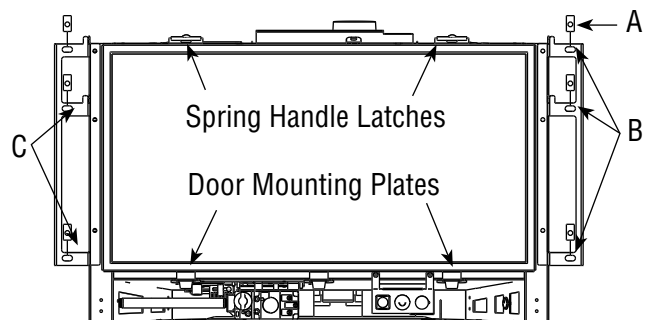

Figure 13
1. Remove the speed nuts (A in Figure 13) from the parts bag and install (with the flat surface forward) on the six holes in the surround brackets - three on each side of the insert (B in in Figure 13). A flat bladed screwdriver may help in installing the nuts.
A number of different face finishes and styles are available for your Ravenna gas insert. The Arch face comes with a sight obstructor that must be installed prior to installing the surround panels and face. Instructions for installing the sight obstructor are included with the face. The faces come with hooked brackets. To install the face, hang the hooked brackets on the surround brackets (See C in Figure 13).